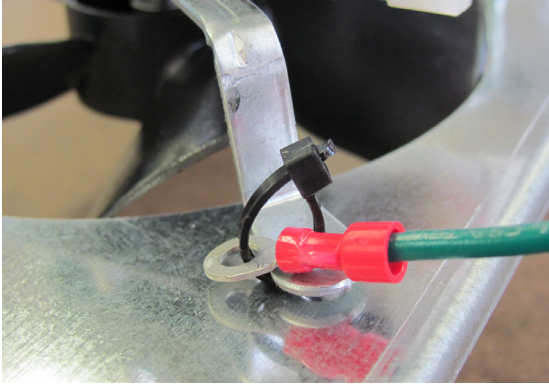

Figure: 3
Step 2: Cut black plastic tie which holds ground wire to mounting bracket eye-hole. Make sure to screw the ground wire ring terminal between screw and mounting bracket to metal mounting surface. (Figures: 3&5)